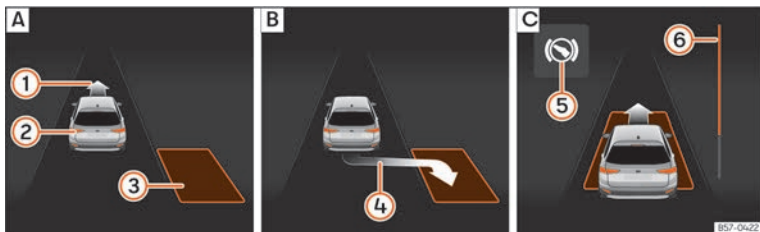
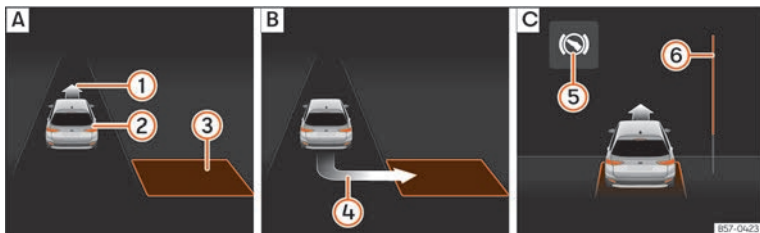

Fig. 199 On the instrument panel display: parallel parking. **[A]** Finding a parking space. **[B]** Parking position. **[C]** Manoeuvring.
Fig. 200 On the instrument panel display: angle parking. **[A]** Finding a parking space. **[B]** Parking position. **[C]** Manoeuvring.
- Look at the display on the instrument panel to see if the space has been detected as “appropriate” and if the correct position for parking has been reached »» Fig. 199 [B] or »» Fig. 200 [B]. The space is considered
- Reverse until the continuous ParkPilot signal sounds; **OR:** reverse until the indication to move forward appears on the instrument panel display »» Fig. 199 [C] or »» Fig. 200 [C]; **OR:** reverse until the **Park Assist finished** message appears on the instrument panel display. The progress bar ⑥ indicates the distance to cover »» page 277.
- Press the brake pedal until the parking assist system completes the steering wheel turns; **OR:** until the symbol (S) goes out on the instrument panel screen.
- Move forward until the continuous ParkPilot signal sounds; **OR:** move forward until the reverse indication appears on the instrument panel display. The Park Assist system steers the vehicle forward and back until it centres it in the space »» Fig. 199 [C] or »» Fig. 200 [C].
»» Fig. 199 ⑥ and »» Fig. 200 ⑥ on the screen of the instrument panel displays the relative distance to be covered. The greater the distance, the fuller the progress bar. When driving forward, the content of the progress bar decreases upwards, and when reversing, it decreases downwards.